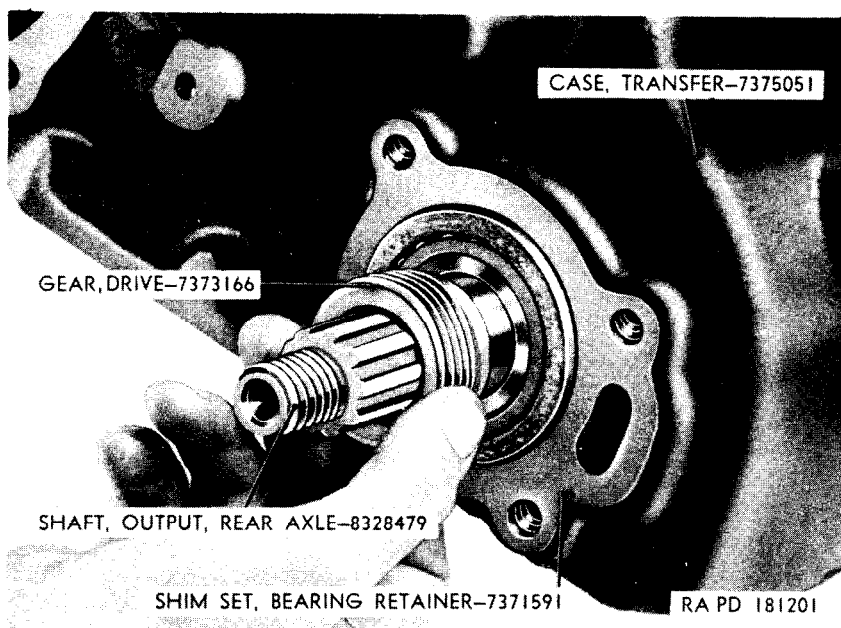

Figure 65. Removing speedometer drive gear.
b. Remove the speedometer drive gear (fig. 65) and the three bearing retainer shims.